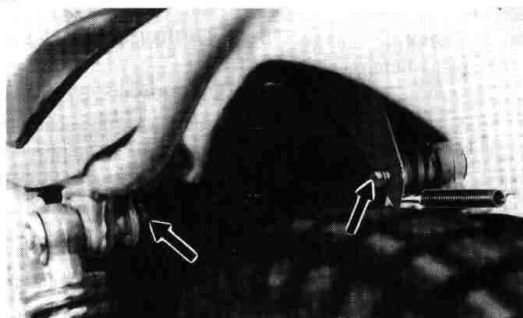

Fig. 3-2-2
Remove the seat. (Fig. 3-2-2)
2. Retirez la selle. (Fig. 3-2-2)